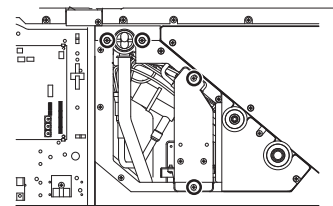

Fig.4
4. Remove the fixing screws holding the drain hose and the drain pump assy shown in Fig. 4.